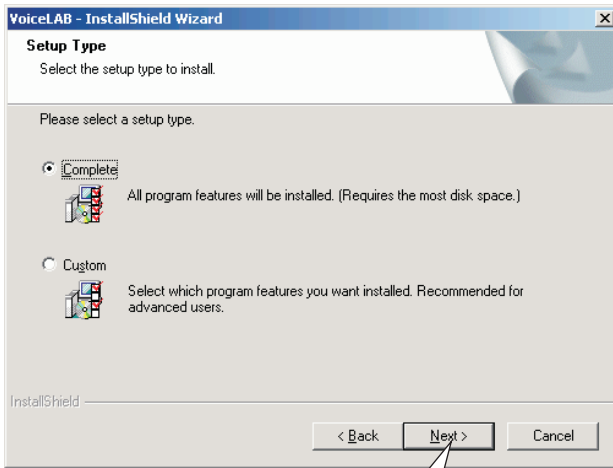

Figure 20
- Setup type selection, select the defaulted setup (Complete) type, click NEXT to enter Next step, as shown in figure 20: